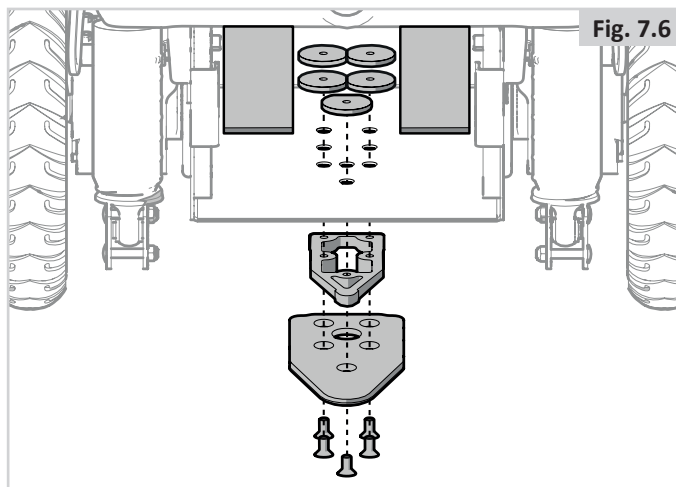

Fig. 7.6
1. Fit the 8 mm spacer onto the lock plate (Fig. 7.6).